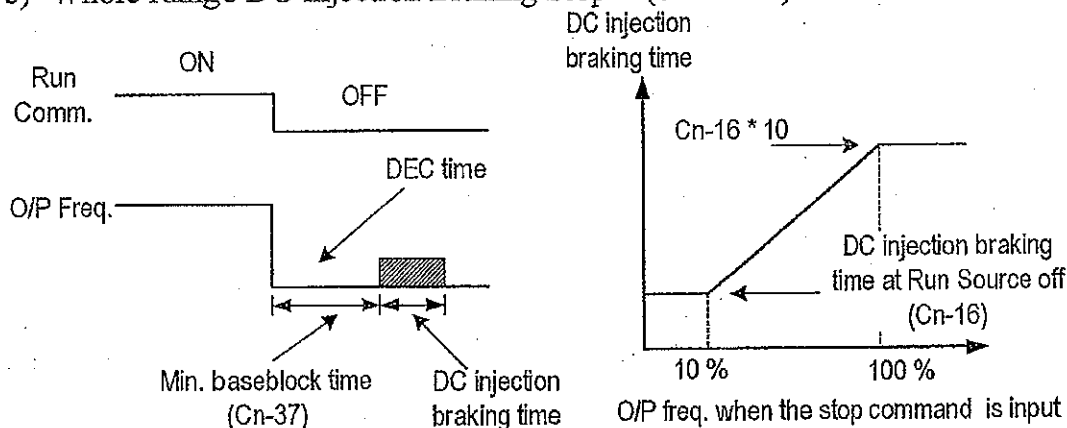

Fig. 31. Whole range DC Injecting Braking Stop
- The DC injection braking time depends upon the output frequency when the stop command is input and the "DC injection time at stop" setting (Cn-16) as shown in Fig. 31.
- Lengthen the minimum baseblock time (Cn-37) when an overcurrent (OC) occurs during stopping. When the power to an induction motor is turned OFF, the counter-electromotive force generated by the residual magnetic field in the motor can cause an overcurrent to be detected when DC injection braking stop is applied.